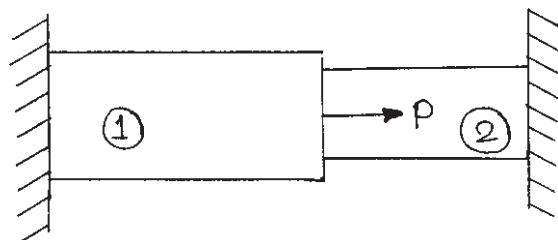

Figure 1.1
- b) Determine the nodal displacement and stresses in each element as shown in figure 1.1. Consider the force $P=400 \text{ KN}$. [8]